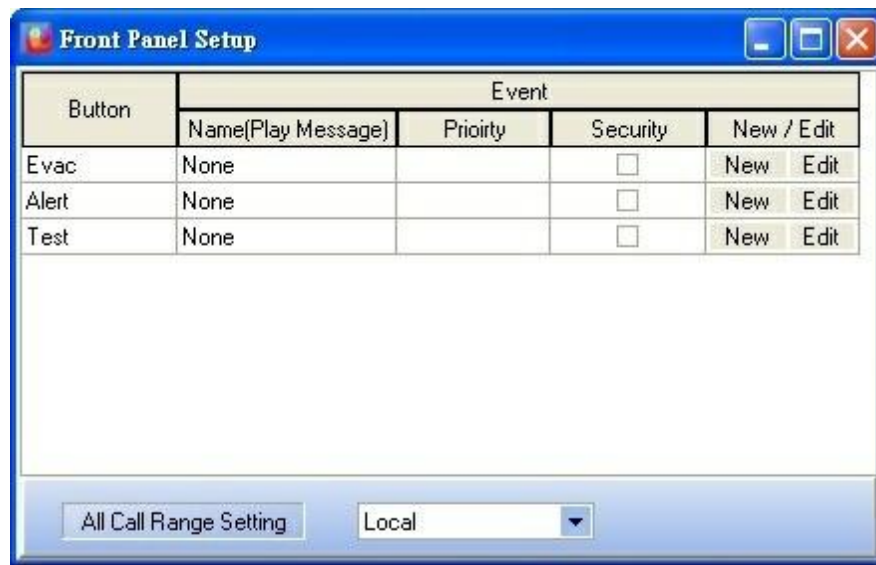

Figure 16:"Front Panel Setup" window
- Click, under DIVA icon, the "Front Panel Setup"(Figure 16). You need to assign an event to the message buttons of the front panel (Evac, Alert and Test). For each button, make a new event and then edit the events (example on Figure 17).